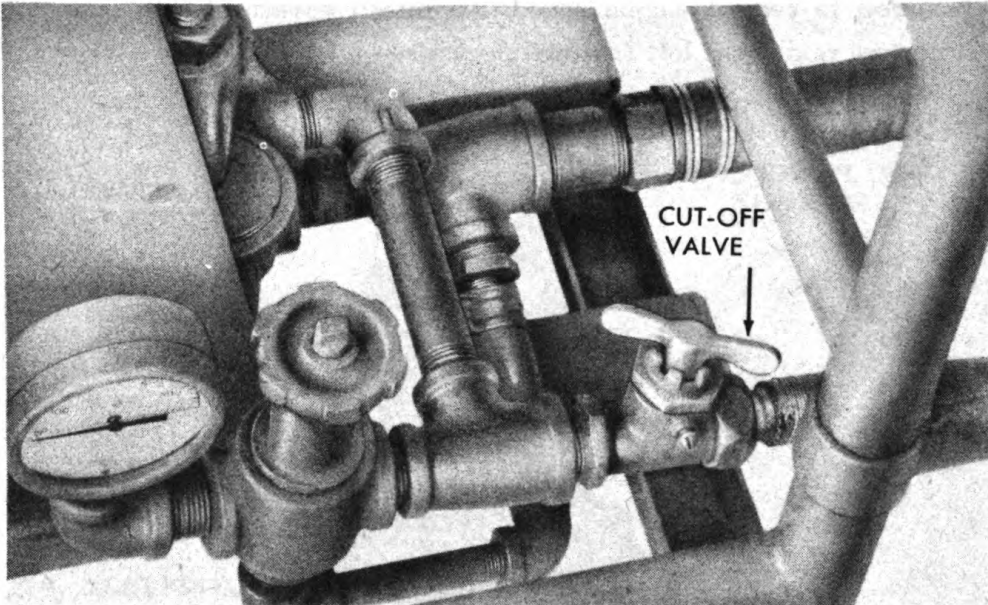

Figure 17—Cut-Off Valve
- (1) Submerge strainer end of suction hose in spray material.
- (2) Open cut-off valve (figure 17) permitting spray material to travel through hose to spray gun.
- (3) Turn handle of spray gun to right (clockwise) or left (counter-clockwise) to select type spray desired.